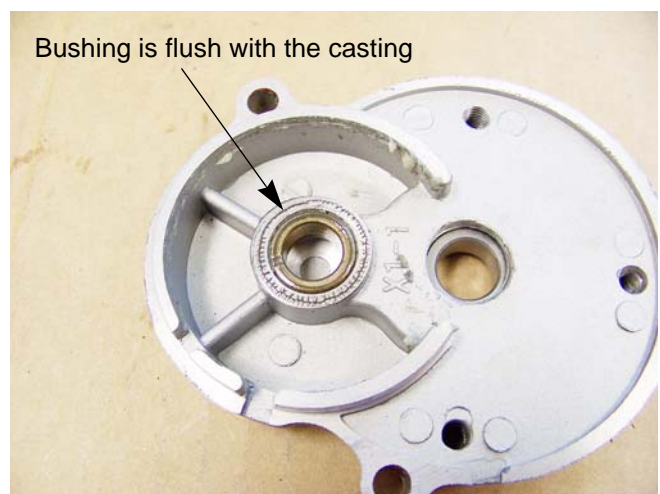

Figure 6.20
3. Press the bushing into the clutch/pinion cover until it is flush. See Figure 6.20.